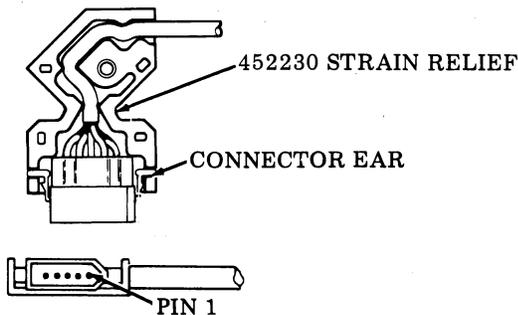

Fig. 38
3.23 Controller end connector only: Bend connector ears toward wire end of connector. See Fig. 38. Install 452230 strain relief. Route wire inside strain relief so that outer plastic shield extends beyond all strain relief points. Install 452231 cover on strain relief and secure with 121005 screw. See Fig. 39.